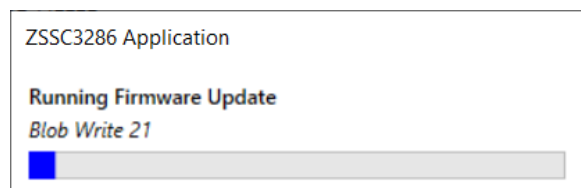

Figure 164. IO-Link FW Update Progress
- via IO-Link: Figure 164 shows the progress pop-up window during FW Update.